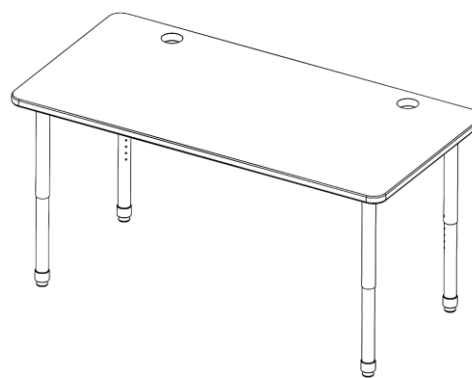

Figure 2
2. Utilizing a 3.00" diameter Hole-Saw, align the pilot bit with the center of the "X" marked on the top to identify the desired grommet location. See Figure 2 below.